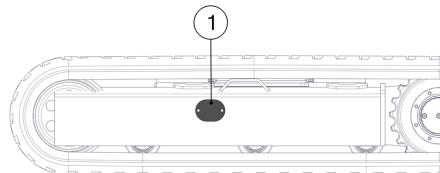

Figure 38 - Cover Plate Location
2. Remove the cover plate from the side frame to access the adjustment unit grease nipple (see Figure 38).